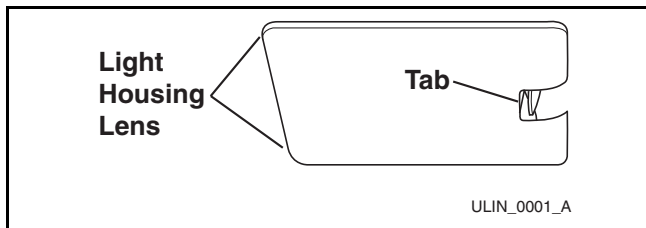

Figure 15
1. Grasp the edges of the light housing lens opposite the exposed tab and gently push the lens toward the tab (**Figure 15**).